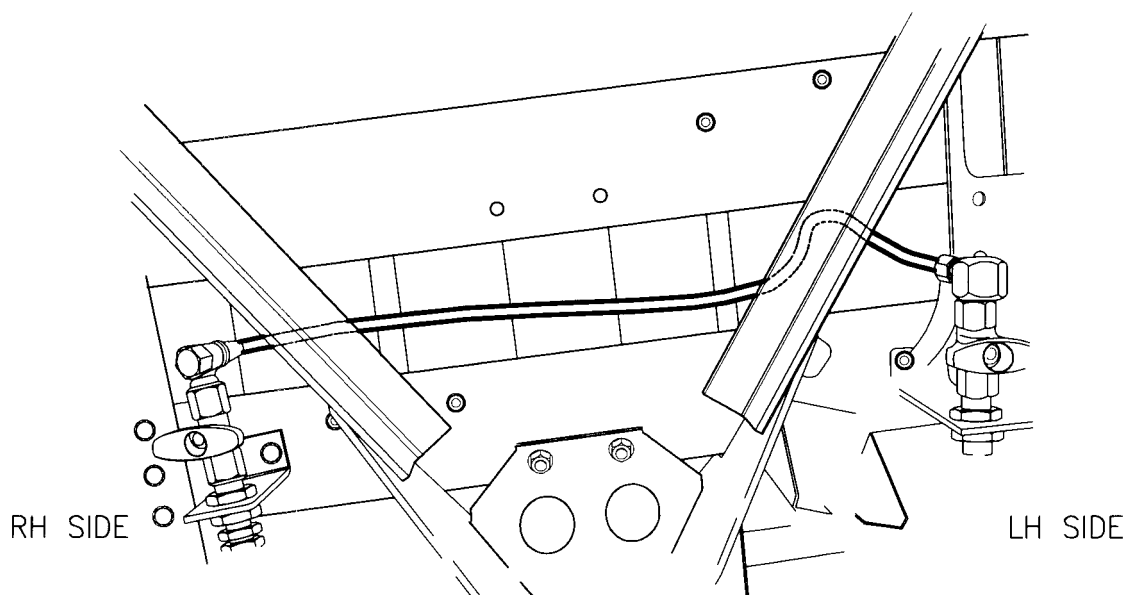

Fig 3a Transverse pipe run (un-clipped)
9.2 Remove manual valve, bulkhead adaptor, and palm couplings from respective mounting brackets and discard. Release clip on crossmember (Emergency supply) where fitted. (See Figs 3a and 3b).